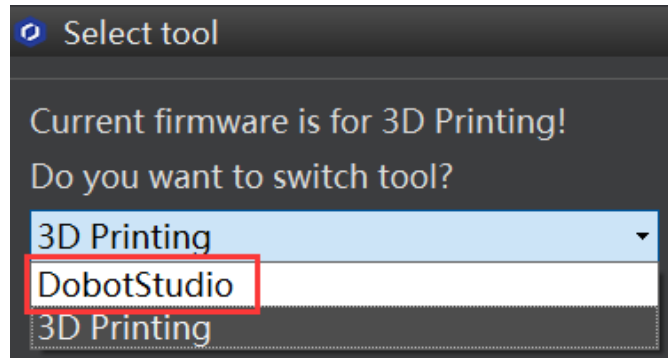

Figure 5.87 Select the DobotStudio to upgrade the Dobot firmware
1. Select **DobotStudio** to upgrade the Dobot firmware, as shown in Figure 5.87. The **Question** dialog box is displayed.